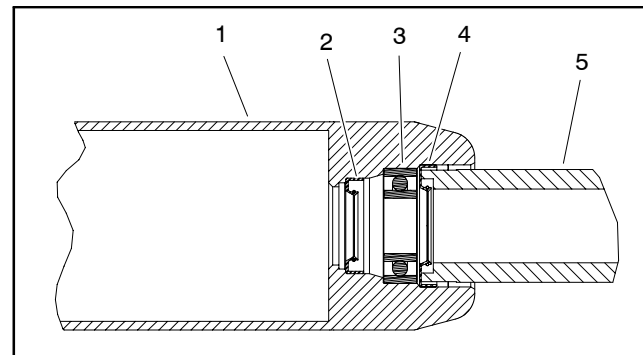

Figure 10
C. Install first outer seal into roller tube making sure that seal lip (and garter spring) faces end of tube. Use bearing/outer seal tool (see Special Tools) and soft face hammer to lightly seat seal against roller shoulder (Fig. 10). Make sure that bearing still freely rotates after seal installation.